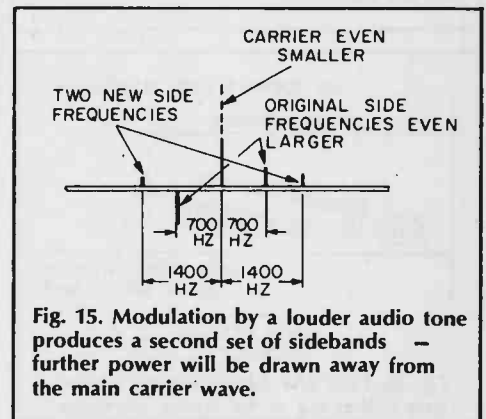
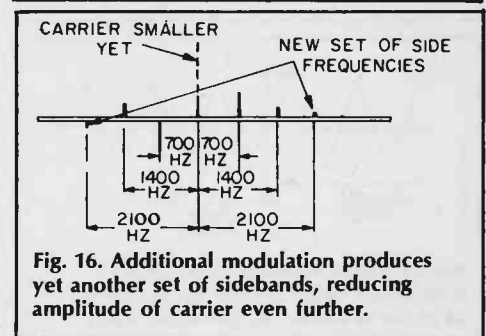

Fig. 15. Modulation by a louder audio tone produces a second set of sidebands—further power will be drawn away from the main carrier wave.
Fig. 16. Additional modulation produces yet another set of sidebands, reducing amplitude of carrier even further.
**More Sidebands to Come!** But that’s not the whole story, yet. If we ask the flutist to play a little louder, we find that—as we might expect—the carrier line gets even shorter and the two side frequencies appear, at  $2 \times 700 = 1400$  Hz away from the carrier! See Fig. 15. As the flutist plays louder, the carrier gets even smaller, the side frequencies get even larger, and—another surprise—a *third* set of side frequencies appears at  $3 \times 700 = 2100$  Hz from the carrier! And, again, the lower side frequency of the pair is inverted. See Fig. 16.